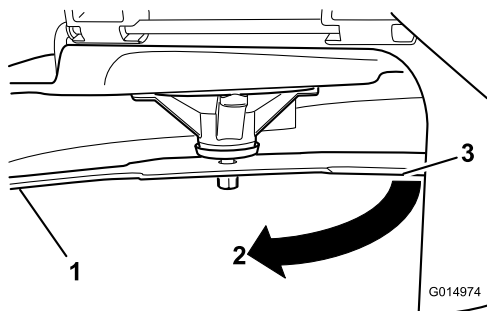

Figure 63
4. Rotate the same blade 180 degrees so that the opposing cutting edge is now in the same position (Figure 63).